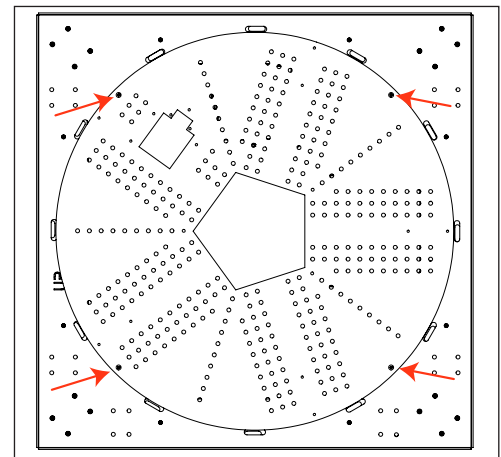

Figure 12: Gas Connection
10. Remove four (4) T-20 screws securing the log tray to fire pit chassis and lift the media tray up (See Figure 12).